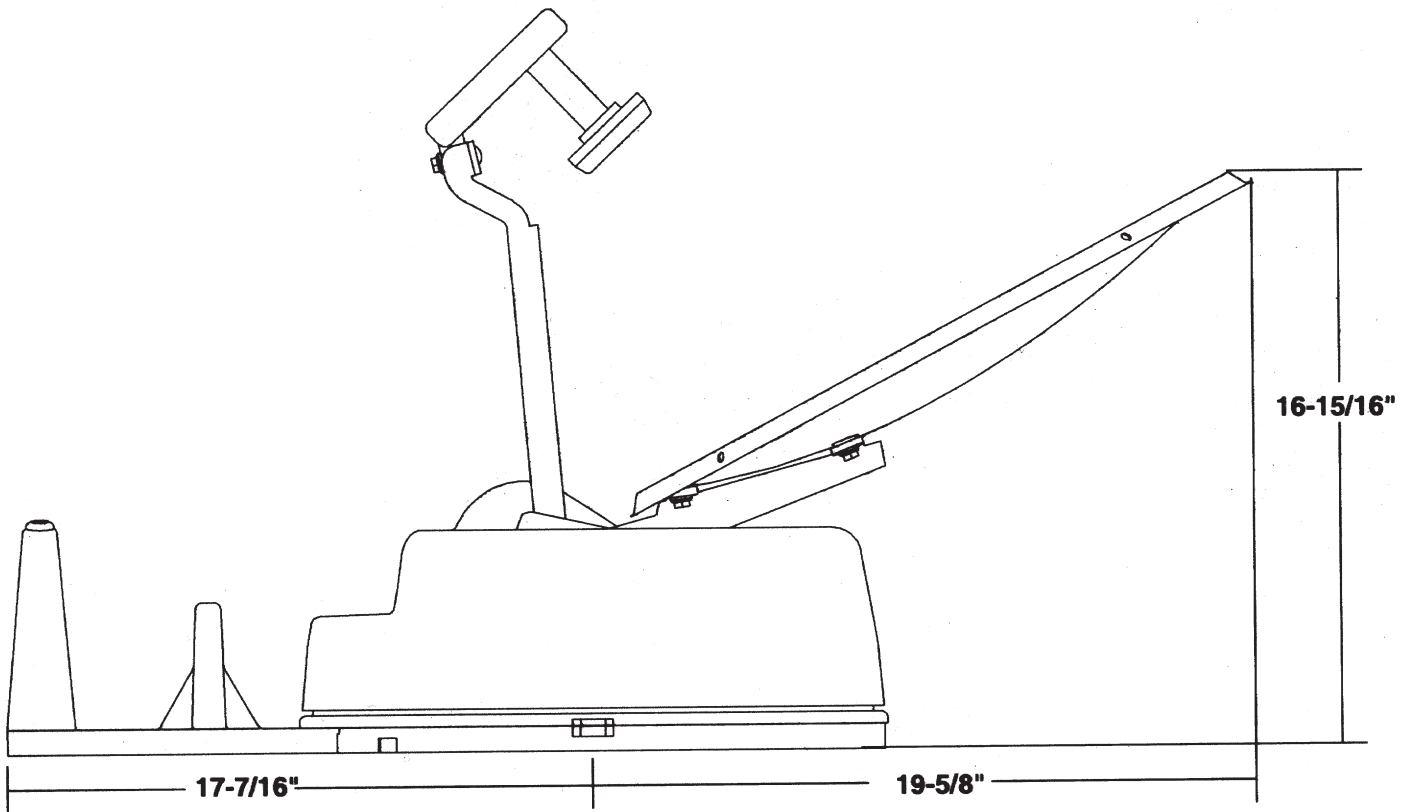
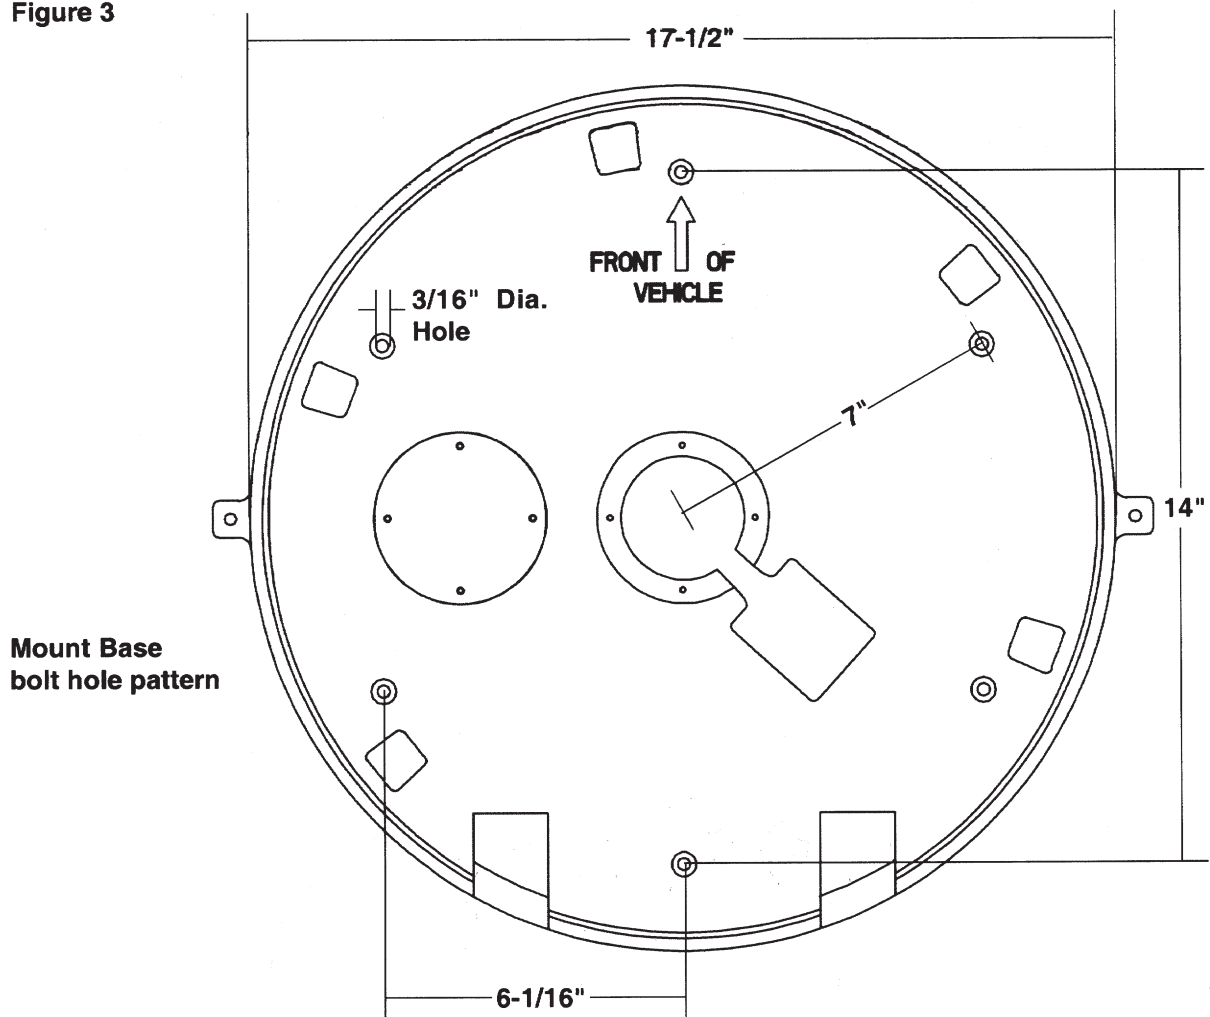

Figure 1
Figure 4
- A. An area on the RV/coach large enough to allow free movement of the antenna/mount. See Figures 1, 2 and 3 for mount/antenna clearance. **If you do not have an area large enough, you can build up the mount so that it will clear ALL obstructions.**
- B. A roof plan of your RV/coach showing the rib locations. This is required so that you may anchor the mount securely. Figure 4 shows bolt hole pattern and size.
2. After determining how you want to run the control cable, you are ready to attach the mount base to the roof. Make sure the location you choose has adequate clearances; review Figures 1, 2 and 3. Figure 4 shows bolt hole pattern.